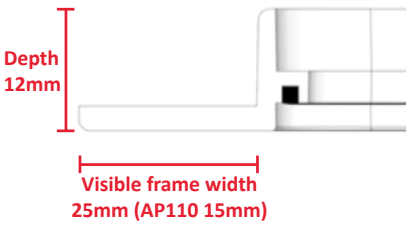

Fig.3
- To remove the door, open the door slightly (fig 2.) and pull away from the hinge position maintaining the door at a slight angle (fig. 3). This does not apply to panels AP110 and AP200 which are clip fit door panels